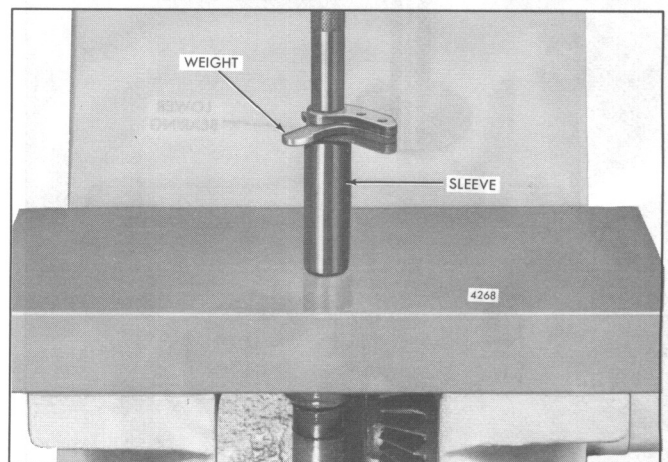

Fig. 14 – Removing Governor Weight Bearings using Tool J 8985
- c. Position the high-speed governor weight on a sleeve on the bed of an arbor press and press the bearing from the weight using replacer J 8985 (Fig. 14).